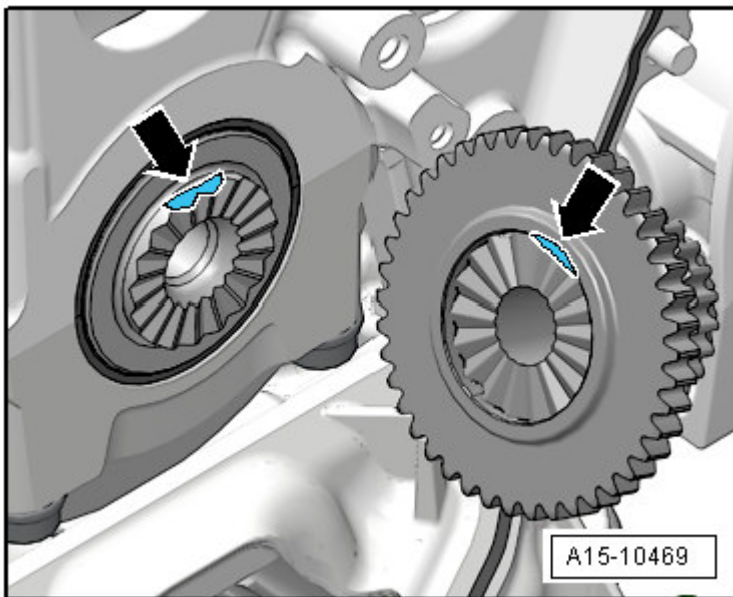

Fig. 13: Identifying Chain Sprocket Crankshaft - Installation Position
- Installed position, refer to **Fig. 13**.